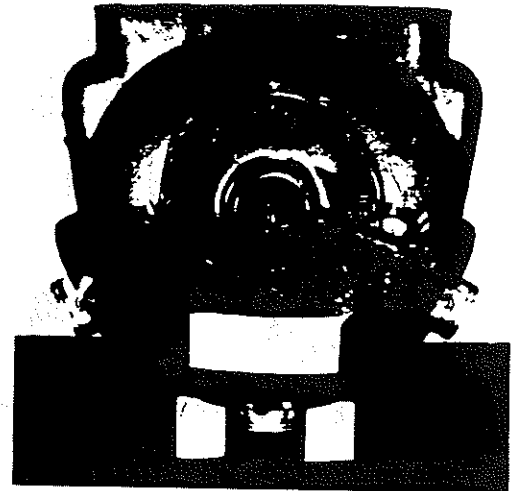

Figure 3-6. Piston Rings Removed
d. Push the piston rods down so that the piston rings extend below the cylinders. Remove and discard piston rings. Use only new rings when reassembling the compressor. (See figure 3-6.)